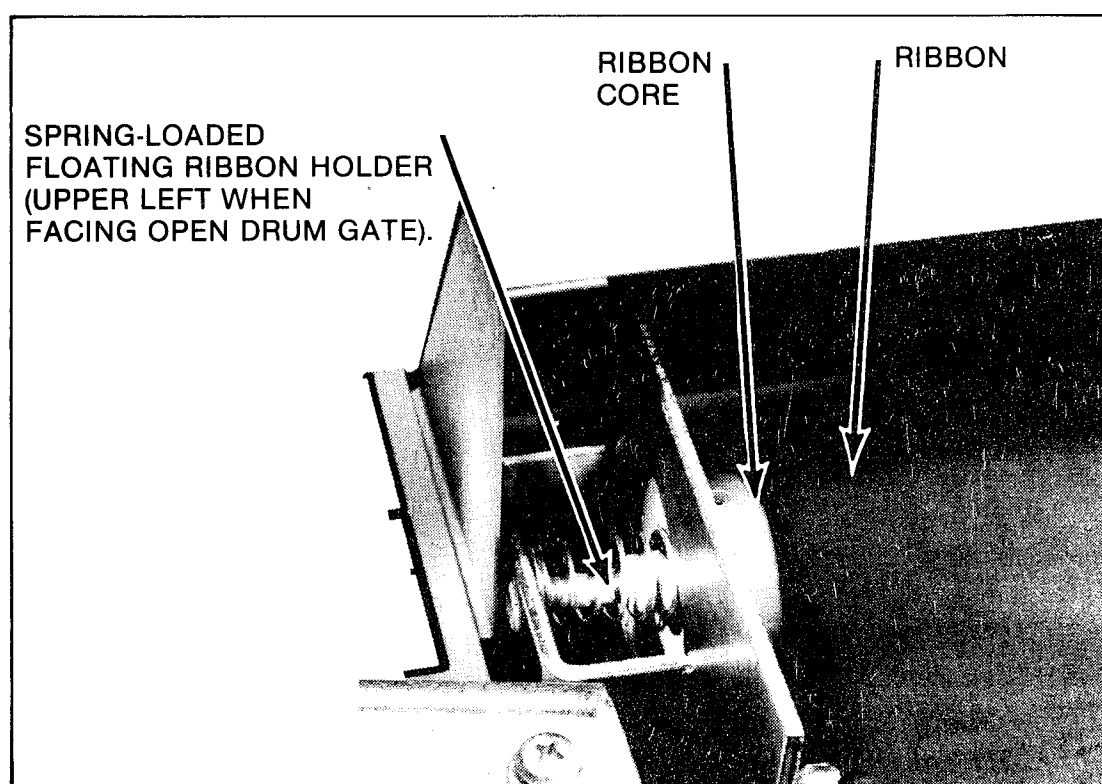

Figure 6. Floating Ribbon Holder
- Place the fully wound ribbon core over top floating ribbon holder. (Figure 6.)